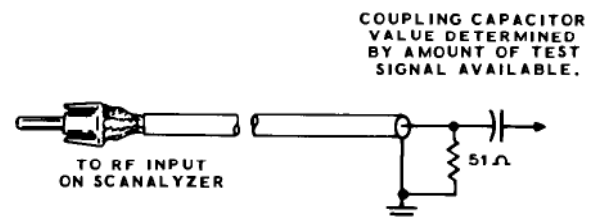

Figure 38
- () Make up a test lead of small 50 Ω coaxial cable (not provided) with a phono socket installed at one end. See Figure 38. The cable should be long enough to reach from the Scanalyzer to the circuit being tested.
- () Connect a 51 Ω (green-brown-black) resistor between the center conductor and shield at the other end of the coaxial cable. See Figure 38.
- () If the signal to be tested has a DC component, connect one lead of a blocking capacitor to the center conductor at this same end of the coaxial cable. See Figure 38.